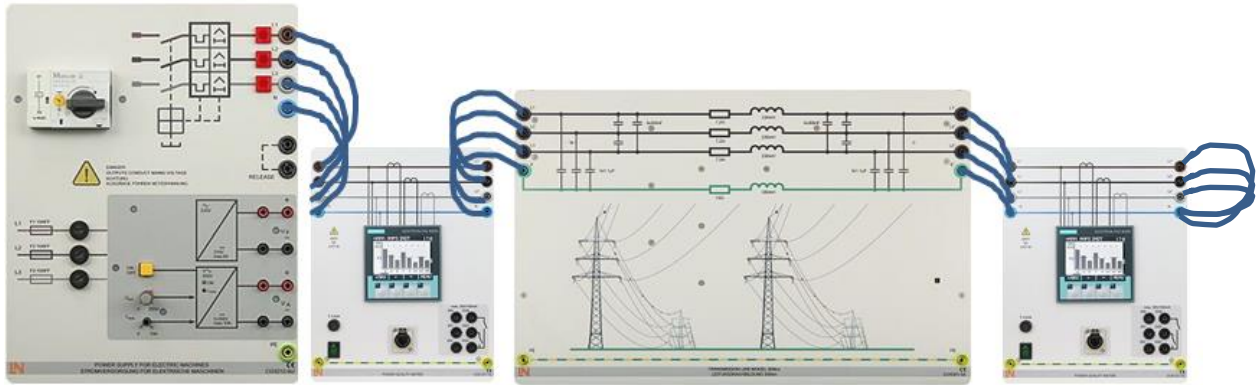

Fig. 2: Short-Circuit Test
**Experiment:** Connect one end of the module to a 3-phase 208/120 V supply, and short out the line terminals at the other end (see Fig. 2 below). Measure the ( $V_S$ ,  $I_S$ ,  $P_S$ ,  $Q_S$ ) and the current  $I_R$  at the receiving end.